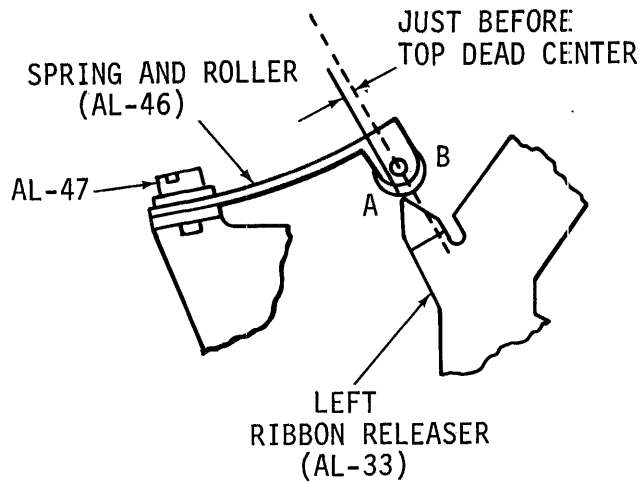

Figure 5-23. SPUR ON LEFT RELEASER (AL-174) AND ROLLER (AL-46)
- b. On left support plate (AL-191) of ribbon feed mechanism, loosen screw, washer (AL-47, 48), and pivot control spring (AL-46) upward and towards the front of the printer (to avoid contact with ribbon releaser (AL-33) (Fig. 5-23).
- f. Replace the control spring (AL-46); adjust the control spring so that the pointer or spur on the ribbon releaser left (AL-33) is just before top dead center on the control spring roller, and then tighten the screw, washer (AL-47, 48) (Refer to Fig. 5-23).